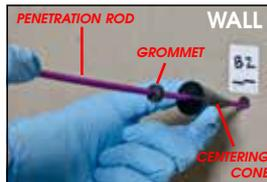

FIGURE 2
2. Maneuver the bullet-tipped end of the rod into the bullet hole. Slip a Centering Cone onto the extension rod and insert it into the hole as deeply as it will go without undue force. Push the rod through until the extension rod clears the exit end (Fig. 2).